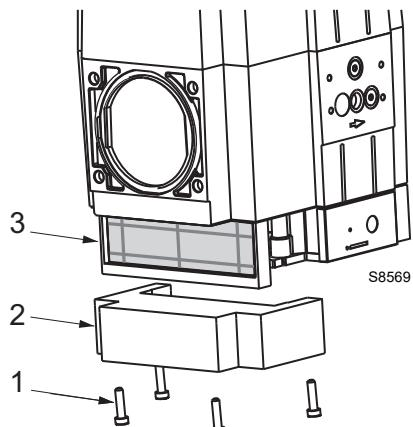

Fig. 12
- loosen the screws 1)(Fig. 12) of the cover 2) in the lower part of the valve